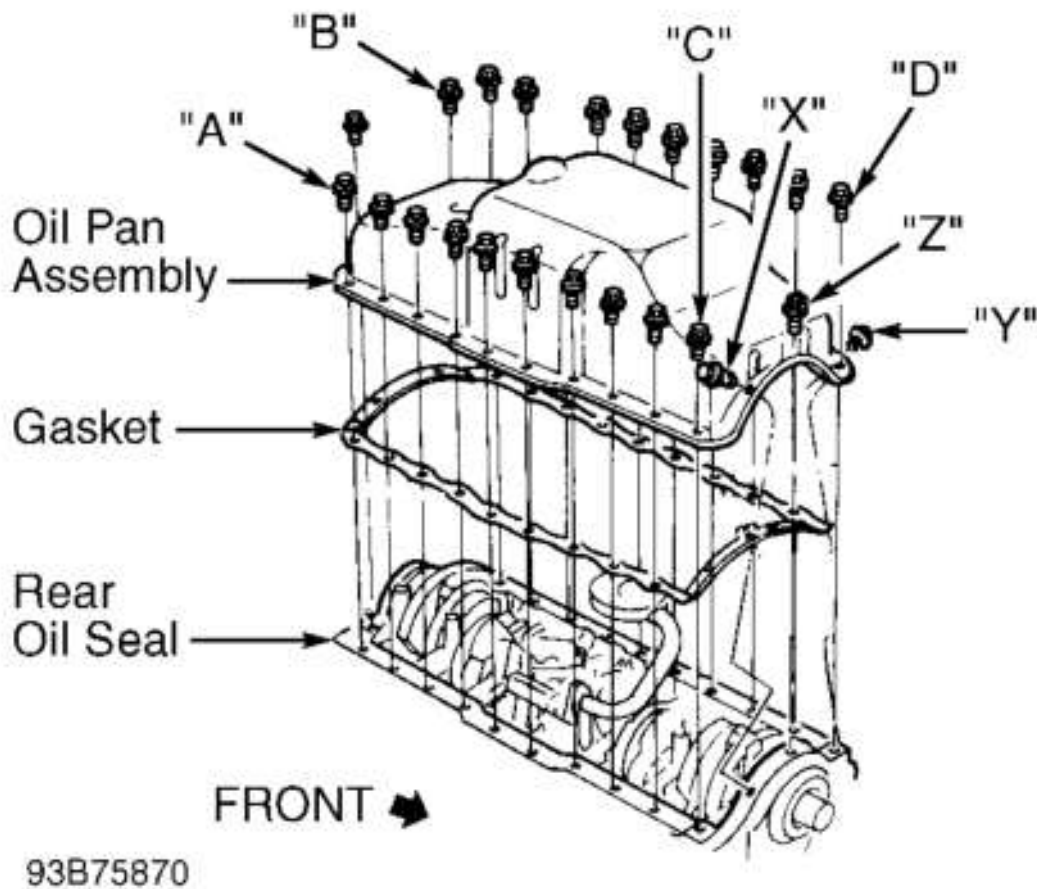

Fig. 8: Oil Pan Bolt Tightening Sequence
2. Install oil pan bolts "A" through "D" first. See **Fig. 8**. Install all other bolts except bolts "X", "Y" and "Z", and tighten all installed bolts to 15-17 ft. lbs. (20-23 N.m). Install bolts "X" and "Y", and tighten to 15-17 ft. lbs. (20-23 N.m). Install bolt "Z", and tighten to 16-20 ft lbs. (21-27 N.m)